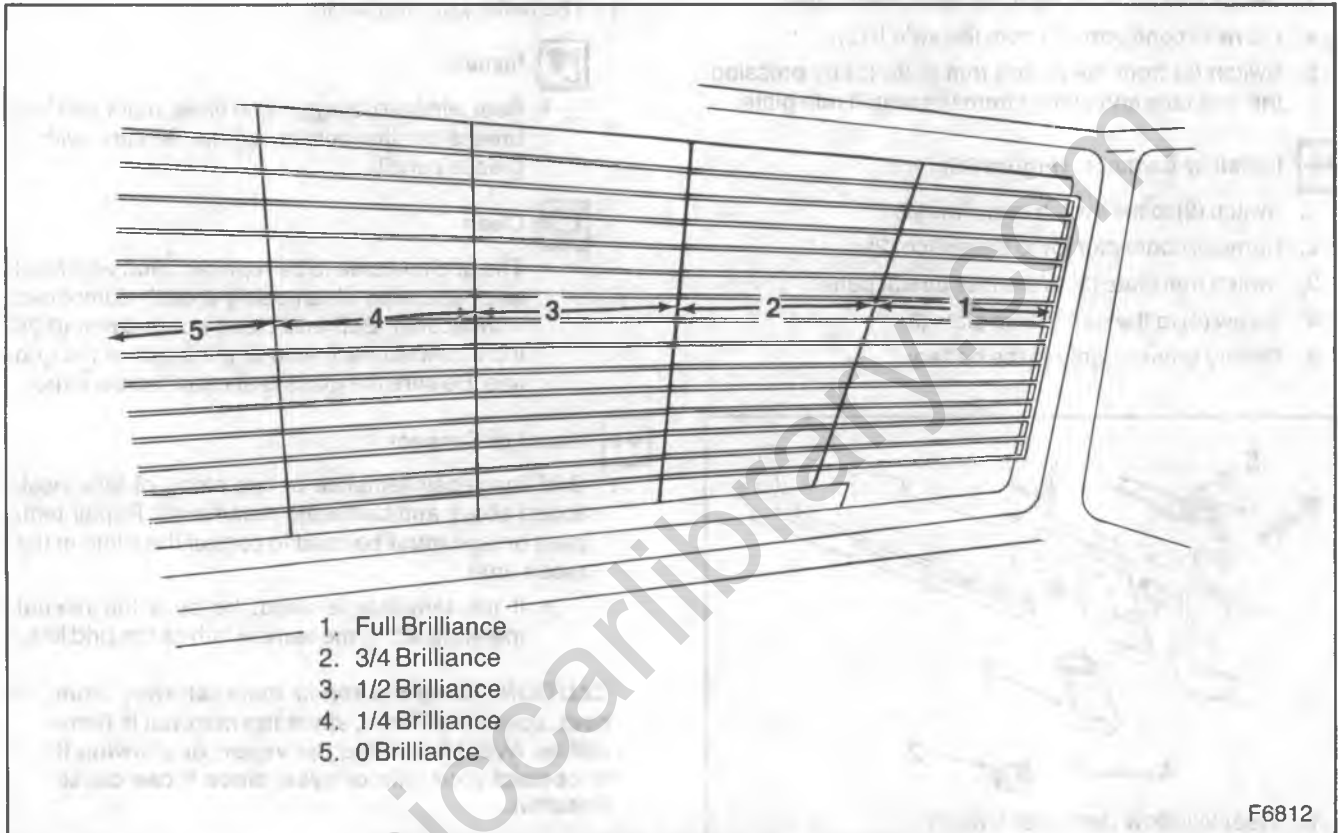

Figure 56 — Test Lamp Brilliance Zones — Normal Operating Rear Window Defogger
- Move the lamp from the feed wire side to the grounded side of each grid. The lamp should be fully bright but then gradually dim as it is moved across the grid. Be sure to check each grid in at least two places to avoid the possibility of bridging a gap (figure 56).